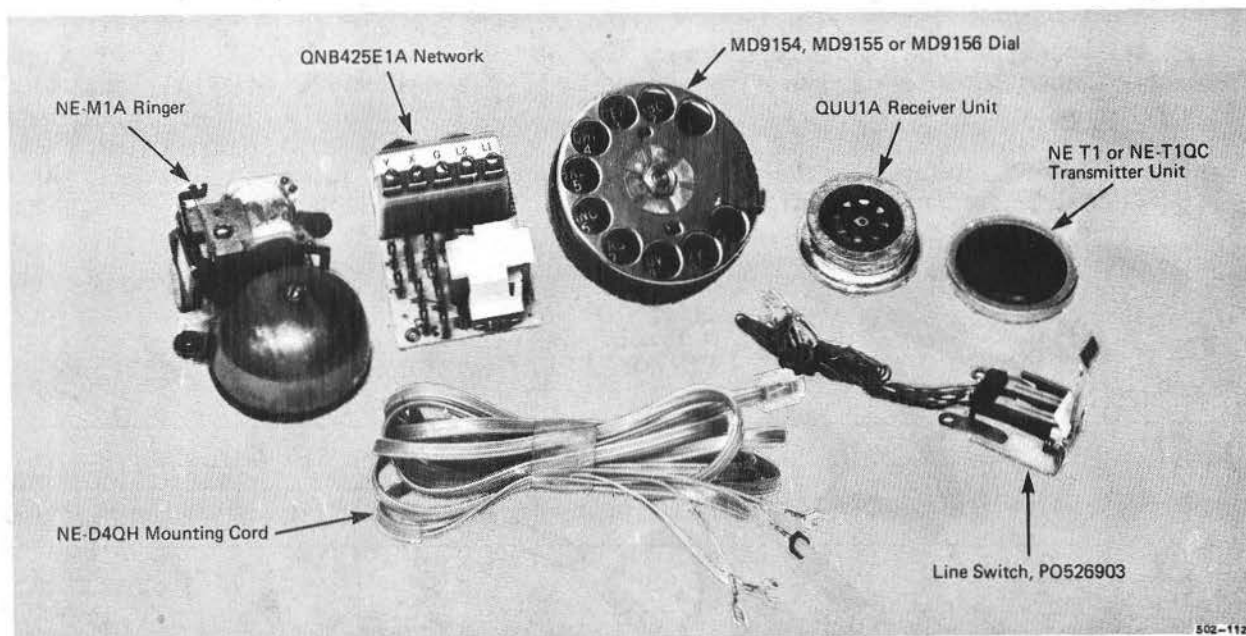

Fig. 6 — Northern Telecom Replaceable Parts
4.01 Replaceable parts should be limited to those listed in Tables B through F and shown in Figs. 6 through 10.